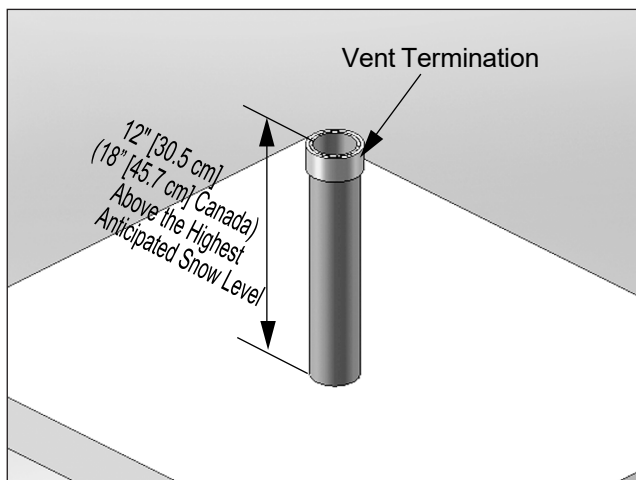

Fig. 15 - Category - IV - Vertical Termination of Vent Pipe
3. The vent piping must terminate vertically with a coupling to accept the bird screen and must be located 12" [30.5 cm] (18" [45.7 cm] in Canada) above the highest anticipated snow level as shown in Fig. 15 on page 24 below.
3. Locate the vent pipe penetration to provide clearances as described in Fig. 15 on page 24.
3. The vent piping must terminate vertically with a coupling as shown in Fig. 15 on page 24.
Do not extend the vent pipe above the roof beyond the dimensions shown in Fig. 15 on page 24. Extended exposure of the vent pipe could cause condensate to freeze and block the vent pipe, resulting in substantial property damage, serious injury, or death.